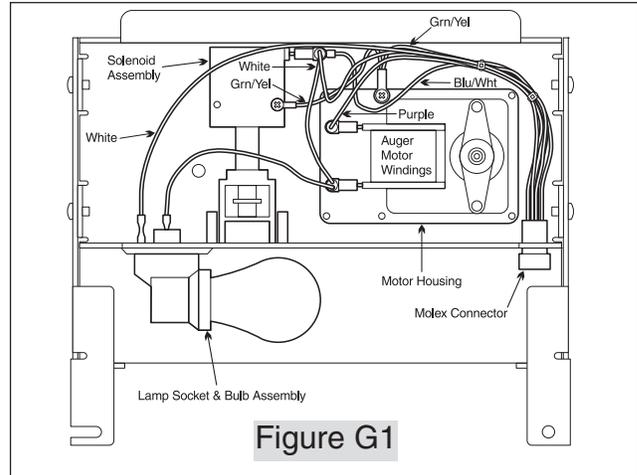

Figure G1
6. Remove screw securing green ground wire to motor housing on back of Motor Cover. (See Figure G1)
7. Disconnect two (2) leads hooked to Auger Motor windings (See Figure G1).
6. Remove screw securing green ground wire to Solenoid Assembly on the back of Motor Cover. (See Figure G1)
7. Disconnect two (2) leads hooked to solenoid coil (Leads are blue with a white stripe and white - See Figure G1).